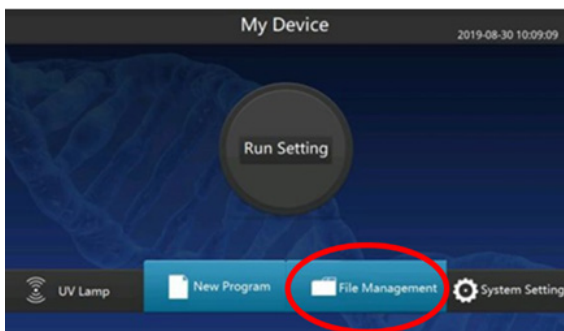

Figure 5: Main control interface of the CleanXtract 96 with File Management indicated in the red circle.
12. Press "File Management" as indicated in the red circle in figure 5.